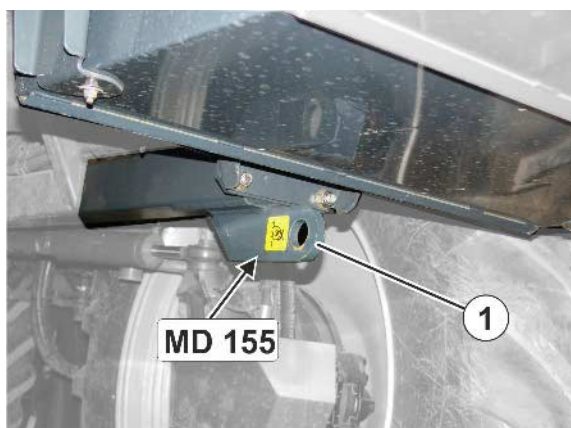

Fig. 4
- 1 Front lashing point (Fig. 4/1)